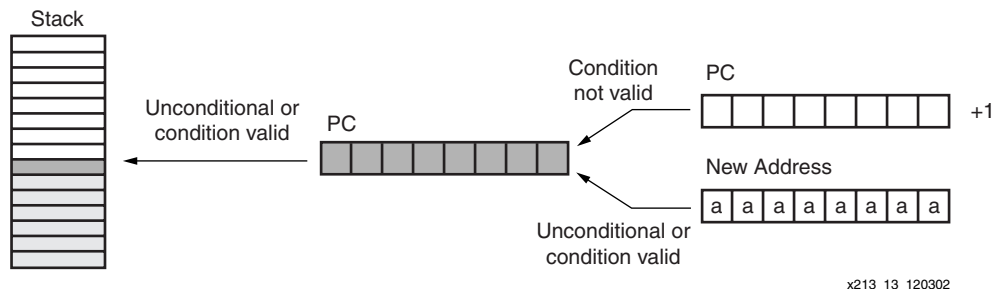

Figure 13: CALL Instruction
The CALL instruction is similar in operation to the JUMP instruction. It modifies the normal program execution sequence by specifying a new address. The CALL instruction can also be conditional. In addition to supplying a new address, the CALL instruction also causes the current program counter (PC) value to be pushed onto the program counter stack. The CALL instruction has no effect on the status of the flags (Figure 13).